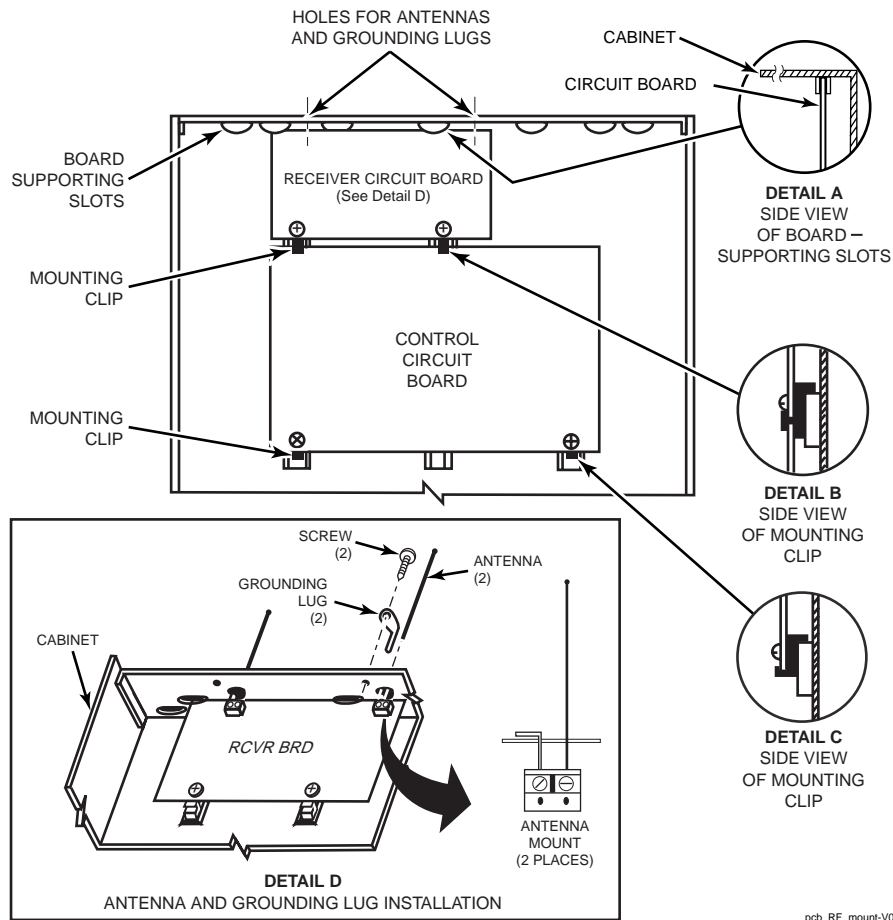

Figure 1: Installing the Receiver Board in the Control's Cabinet
2. **If the receiver is to be mounted within the control's cabinet (refer to Figure 1):**
- c. Hang two mounting clips (provided with the receiver) on the raised cabinet tabs, as shown in Detail B of Figure 1.
- f. Hang two mounting clips (supplied with the control board), on the raised cabinet tabs as shown in Detail C in Figure 1.